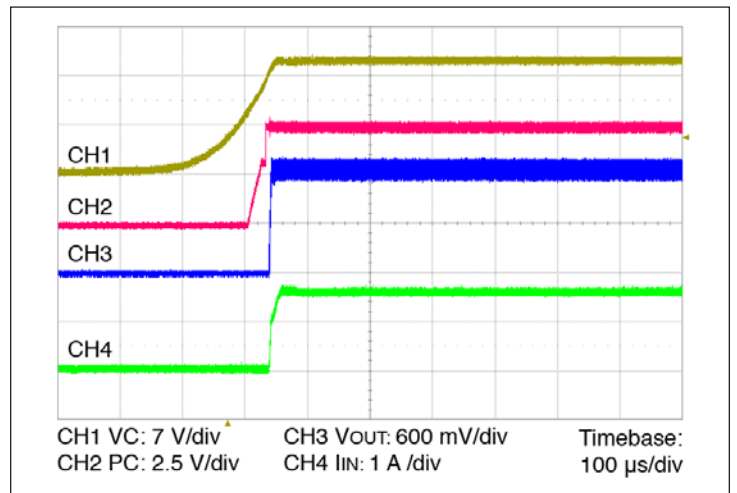

Figure 14 — Start up from application of VC; V_{IN} pre-applied $C_{OUT} = 0 \mu$ F
- **Stand Alone Operation (VC applied after V_{IN}):** In this case the module output will begin to rise upon the application of the VC voltage (See Figure 14). The Adaptive Soft Start circuit (See Section 10) may vary the output rate of rise in order to limit the inrush current to its maximum level. When starting into high capacitance, or a short, the output current will be limited for a maximum of 900 µsec. After this period, the adaptive soft start circuit will time out and the module may shut down. No restart will be attempted until VC is re-applied, or PC is toggled. The maximum output capacitance is limited to 5000 µF in this mode of operation to ensure a successful start.